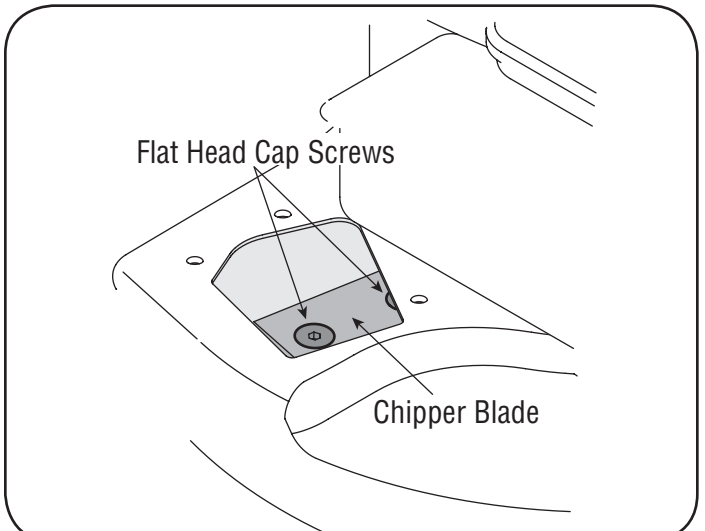

Figure 26
9. Using a 3/16" allen wrench, remove the flat head cap screws that hold the chipper blade to the impeller. These screws are accessible through the opening created when the chipper chute was removed earlier. See Figure 26.